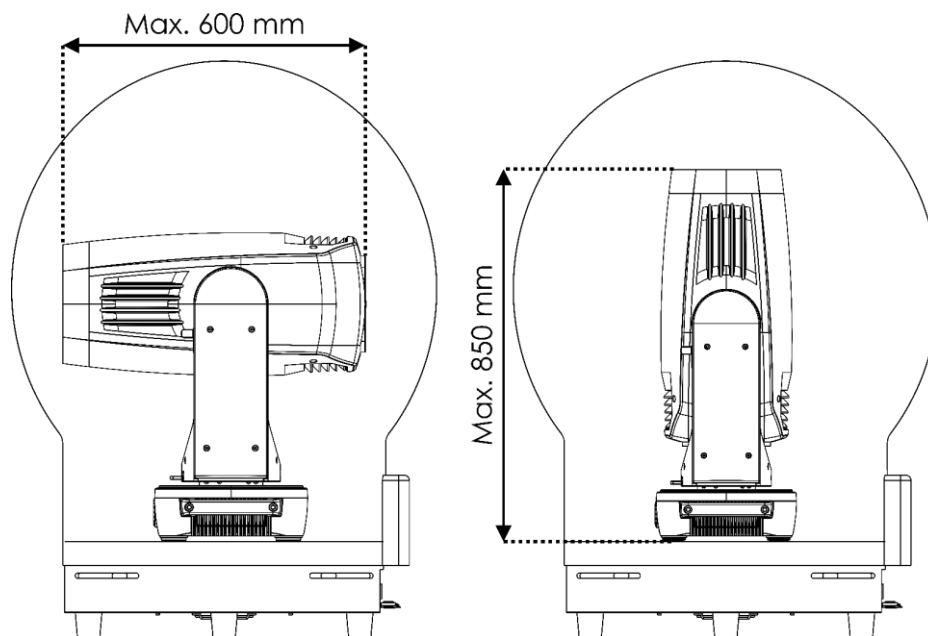

Fig. 16
- a maximum height of 85 cm (in combination with the Dome Sleeve for Rain Dome 60 (71322)). See Fig. 16 on page 15 for more information.